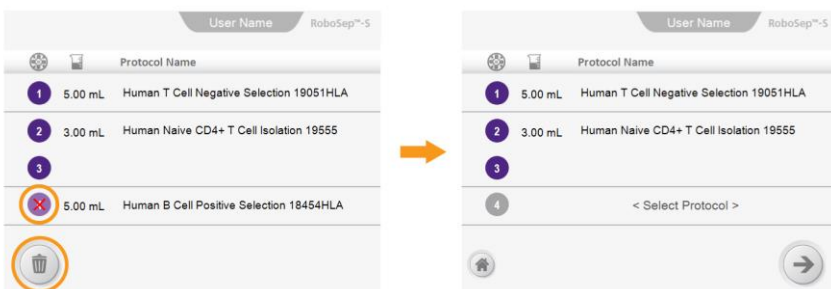

Figure 21. Removing a Protocol from an Assigned Quadrant
*Note: To remove a protocol from an assigned quadrant, select the quadrant number icon on the Run Samples screen. An **X** will appear on the quadrant number icon (Figure 21). Select  [Delete] to remove the selected protocol from the assigned quadrant. Any combination of quadrants can be selected in this manner.*